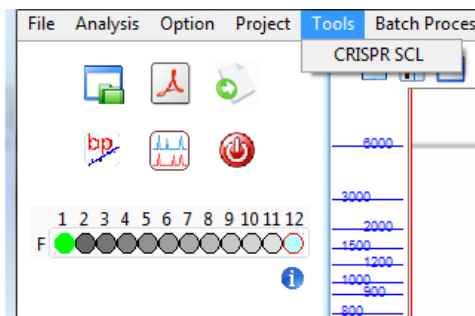

Figure B1. Launching the ProSize CRISPR SCL (Single Cell Line) plugin.
- 2 From the ProSize main screen, select the dropdown **Tools** > **CRISPR SCL** to open the CRISPR SCL plugin (Figure B1).
- 2 From the ProSize main screen, select the dropdown **Tools** > **CRISPR PS** to open the CRISPR PS plugin (Figure B1).